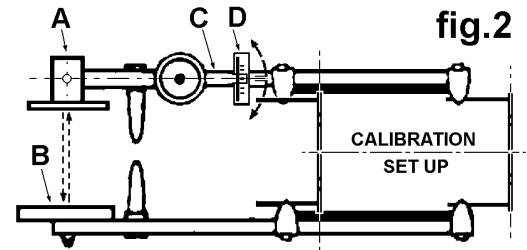

fig.2
- 4.4 When the contact bar arrangements on both units match, proceed to calibrate the gauge. ( See calibration set - up in figure 2. )
- 4.6 Move the pointer arm (see fig.2-C ) until the laser beam is visible on the vertical centre line in between the two bold arrows.
- 4.7 The lens attached to the end of the pointer arm should now be positioned over the zero mark on the graduated scale plate. ( see fig.2-D ) If it is not, slacken the two wing nuts ( fig.4 ) and adjust the scale plate zero mark to co-incide with the indicator line on the lens. Retighten the wing nuts. The gauge is now ready for use in this particular situation. ( Should you proceed to use the gauge on a different vehicle requiring you to alter the contact bar settings you will need to recalibrate the gauge as just described.)